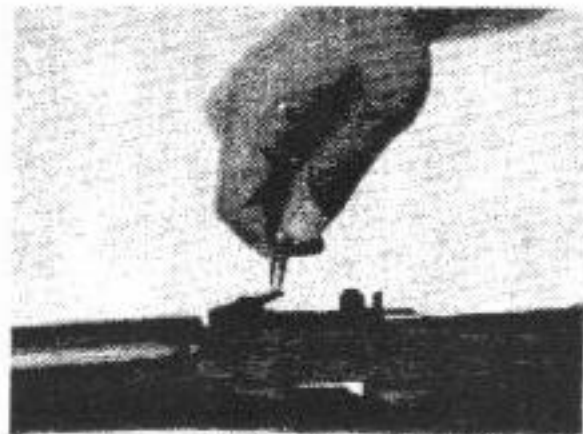

Fig. 6
Step 7: Use a bullet tip to pry up the piston tube locking lever (fig. 6). Position the lever in a way such that the camming surface located at the front is completely vertical.